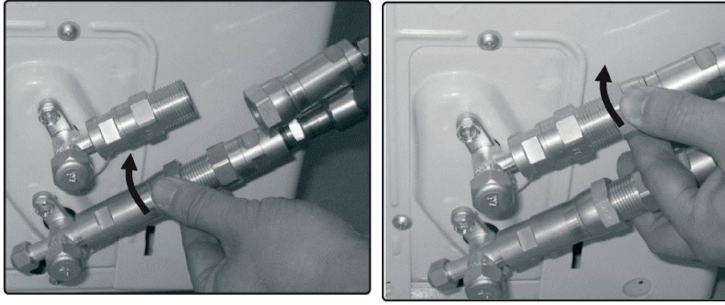

Fig. 6.3
3. Align the refrigerant pipes correctly so that they line up with the valves and are not stressed. Place the screw connector on the refrigerant line just on to the thread on the outdoor unit and tighten the first few threads by hand, Fig.6.3.